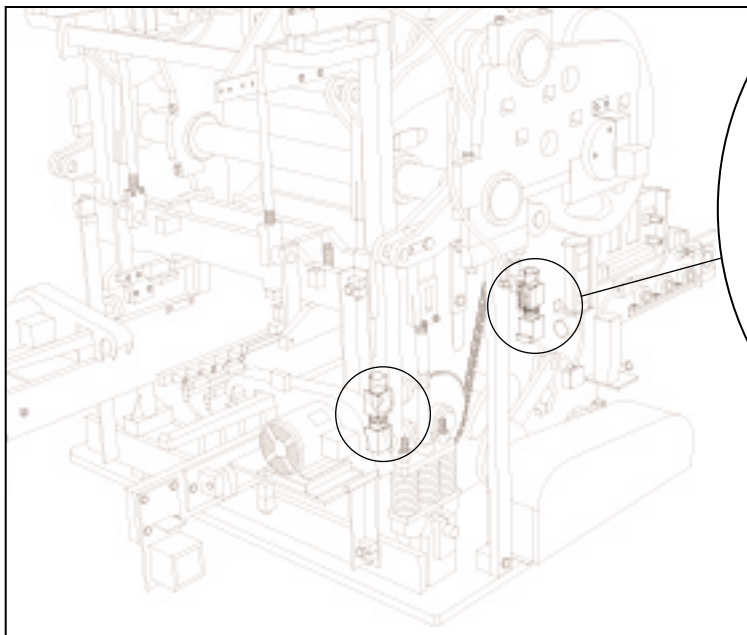

Figure 4.37 BOLTS AT ALL 4 CORNERS. (RIGHT SIDE SHOWN)
- b. Loosen bolts at all 4 corners that secure mold throat assembly (See figure 4.37 and 4.38). Remove top spacers.